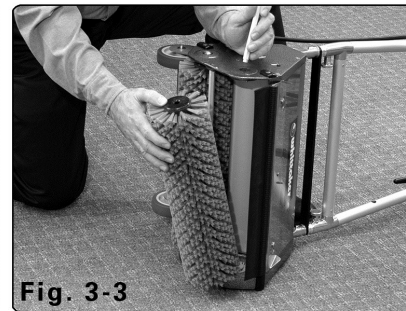

Fig. 3-3
- B. Stand machine on its gear side housing (15) Fig. 3-3.